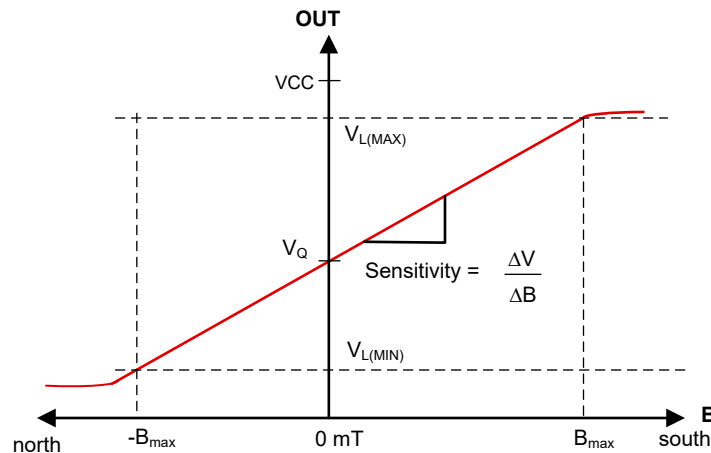

Figure 8-4. Magnetic Response for TMAG5253B (Bipolar) Version
Figure 8-4 shows the response of the bipolar device option (B), which is sensitive to both the positive and negative magnetic fields.